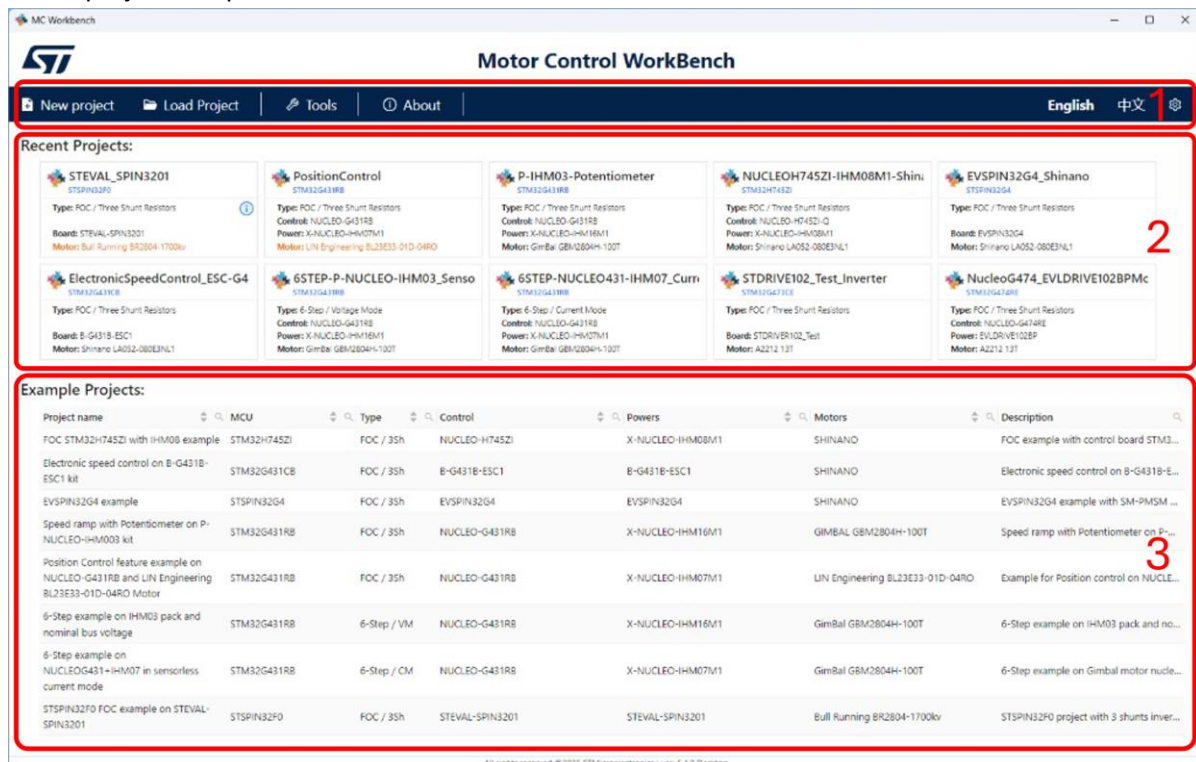
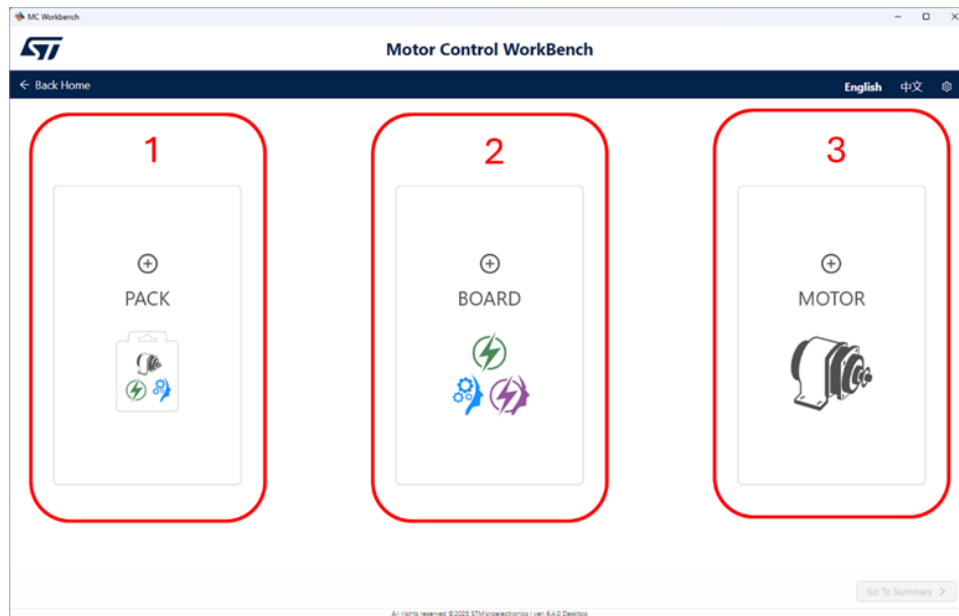

Figure 2: ST MC Workbench – GUI (Home View)
Figure 8: ST MC Workbench – Composer window
1. The Toolbar (Id. 1 in Figure 2: ST MC Workbench – GUI (Home View)), used to start a New Project or Load an already existing one, launch the ST Motor Profiler or Motor Pilot software tools, or learn more about software’s documentation. Here It’s also possible to change the language and customize application settings from the Setting button ().
2. The “Recent projects” area (Id. 2 in Figure 2: ST MC Workbench – GUI (Home View)), used to load an already existing project recently modified by the user.
3. The “Examples projects” area (Id. 3 in Figure 2: ST MC Workbench – GUI (Home View)) used to load one of the project samples.
The “New Project” button (Cf. Figure 2: ST MC Workbench – GUI (Home View)) leads to the *Composer* page (Figure 8: ST MC Workbench – Composer window). Here the user can define a new project by choosing the hardware and the relative connections step by step. The *Composer* page is a full featured section that helps and guides the user build a new project in an interactive and easy way.
At start, the **Composer Page** lets the user choose whether to start creating the project from a Pack (Id. 1 in Figure 8: ST MC Workbench – Composer window), a Board (Id. 2 in Figure 8: ST MC Workbench – Composer window) or a Motor (Id. 3 in Figure 8: ST MC Workbench – Composer window); there is no preferable order, the user can start from any of the options with no limitation.